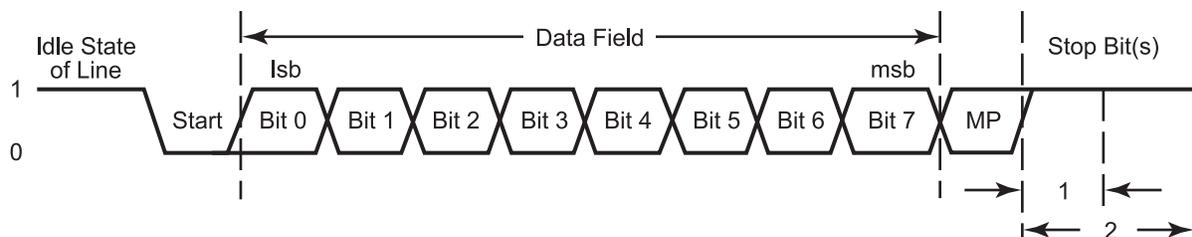

Figure 23. LIN-UART Asynchronous MULTIPROCESSOR Mode Data Format
The LIN-UART features a MULTIPROCESSOR (9-bit) mode that uses an extra (9th) bit for selective communication when a number of processors share a common UART bus. In MULTIPROCESSOR mode (also referred to as 9-bit mode), the multiprocessor bit (MP) is transmitted immediately following the 8 bits of data and immediately preceding the STOP bit(s) as displayed in Figure 23.